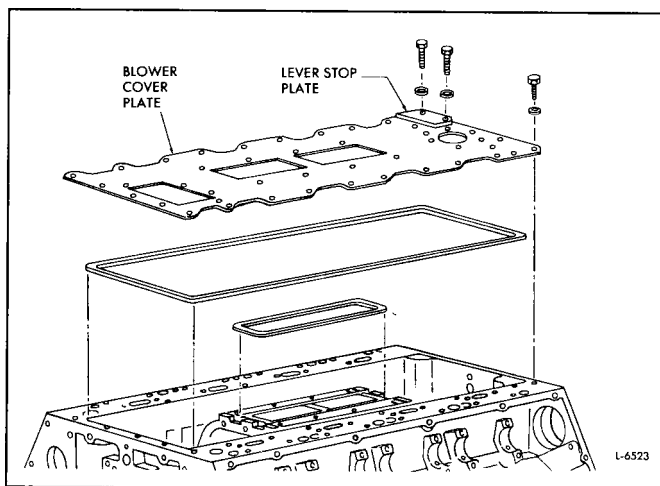

Fig. 6 - Bypass Blower Valve Lever Stop Plate Location
- Effective with unit serial number 8E2524, a lever stop plate (Fig. 6) was installed on the blower cover plate below the bypass valve lever of all 8V-149 engines. Use of this plate was discontinued when the flapper style bypass valve was replaced by the piston style valve (unit serial number 8E2594).